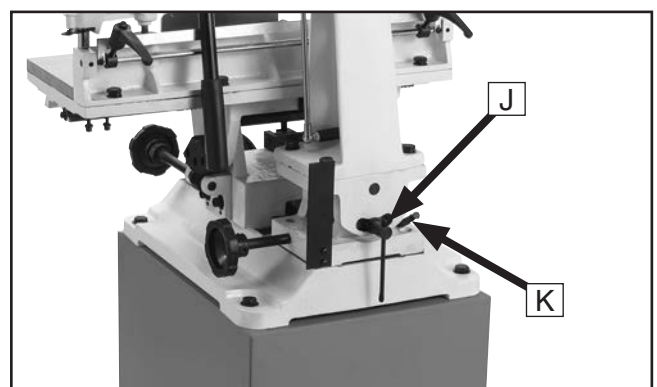

Figure 3. Column tilt controls.
- G. Column Tilt Handwheel:** Rotates handwheel to tilt column and headstock up to 22.5° left or right. Features tilt angle scale with reference indicator, column tilt lock, and adjustable tilt stop (see **Figure 3**).